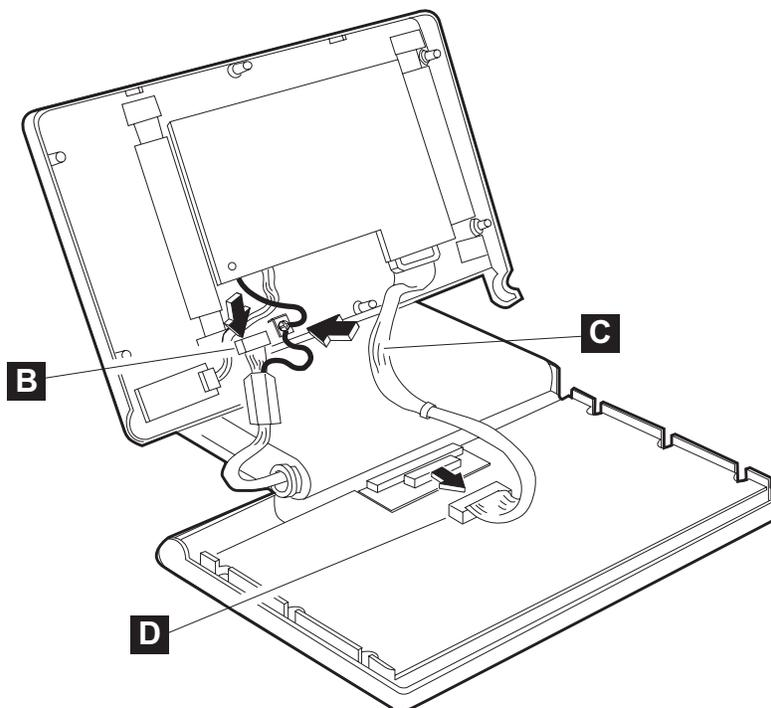

Figure 65. Disconnecting the connector, screws, and cables
2. Lift up the bottom cover assembly as shown in Figure 65 on page 66